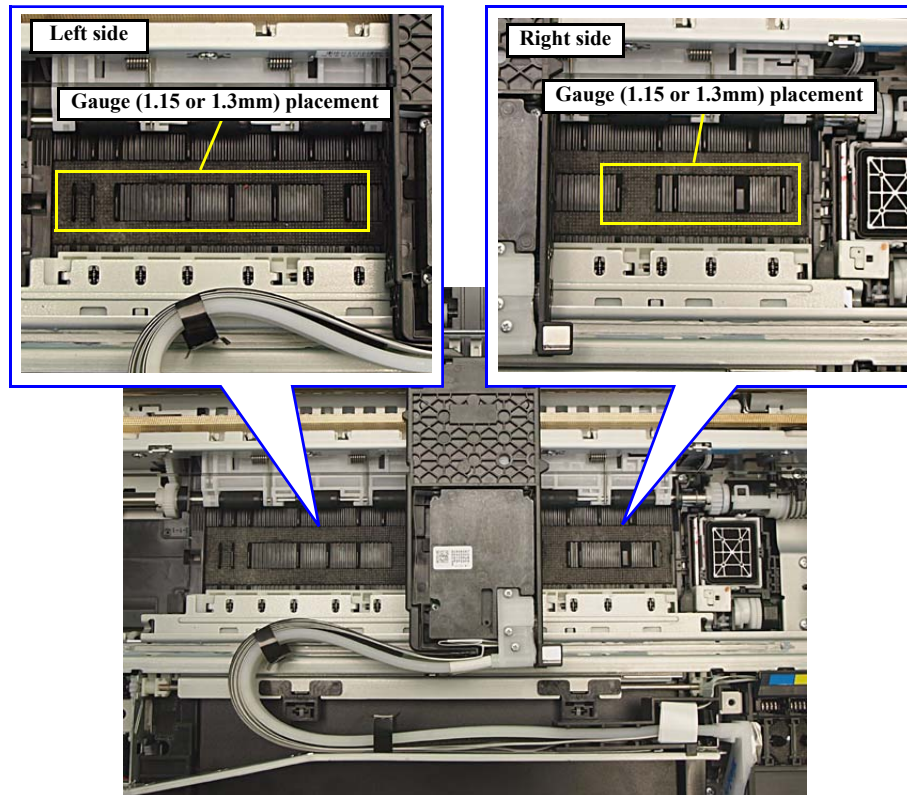

Figure 5-41. Setting the thickness gauge
1. Move the carriage to the center of the platen, and place one of the 1.1 mm thickness gauges aligning the left edge with the third rib from the left end of the Front Paper Guide to the fifth rib. Then place the other 1.1 mm thickness gauge aligning the right edge with the second rib from the right end of the Front Paper Guide to the fifth rib. (Fig. 5-41)